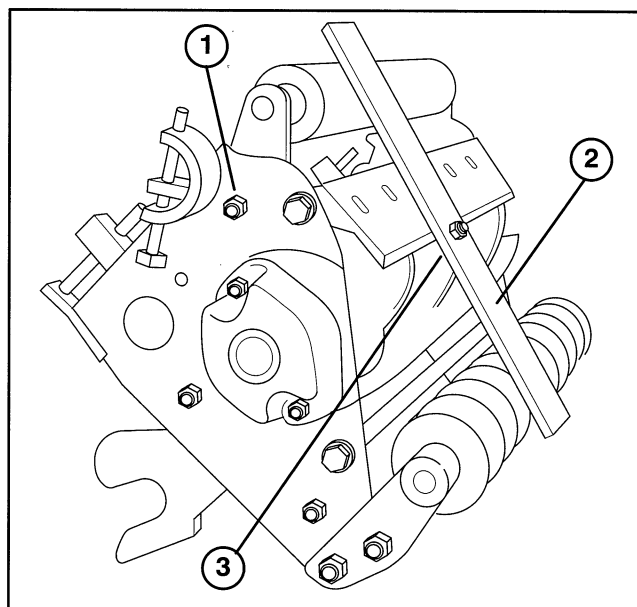

Figure 7
3. Loosen the locknuts securing the height of cut brackets to each end of the cutting unit (Fig. 7).
5. Place the bar across the front and rear rollers and adjust the tap bolt until the underside of the screw head engages the bedknife cutting edge (Fig. 7).